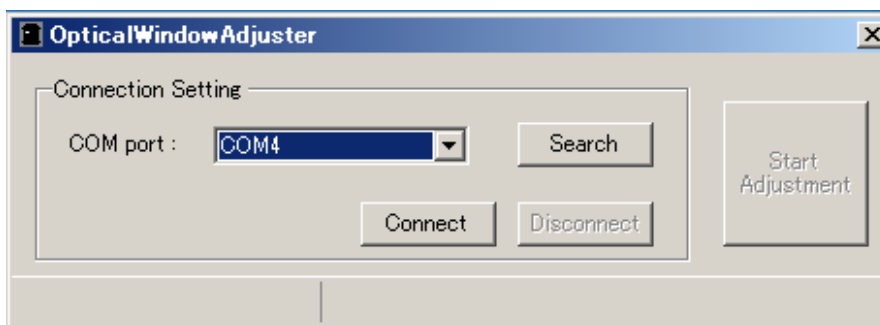

Figure 8-2 Optical Window Adjuster
- Start Optical Window Adjuster. Window as shown in figure 8-2 will appear.
- g) When adjustment is complete, dialog box as shown in Figure 8-3 will appear. Click the OK button and then click disconnect button (Figure 8-2). Remove the USB cable. SE2L will switch to normal operation. Retry the adjustment after checking the optical window and USB connection if an error dialog as shown in Figure 8-4 is displayed. If adjustment fails even after repeated trial contact the nearest distributor or sales representative for support. Send the log file and calibration data file for investigating the cause of failure in such case.